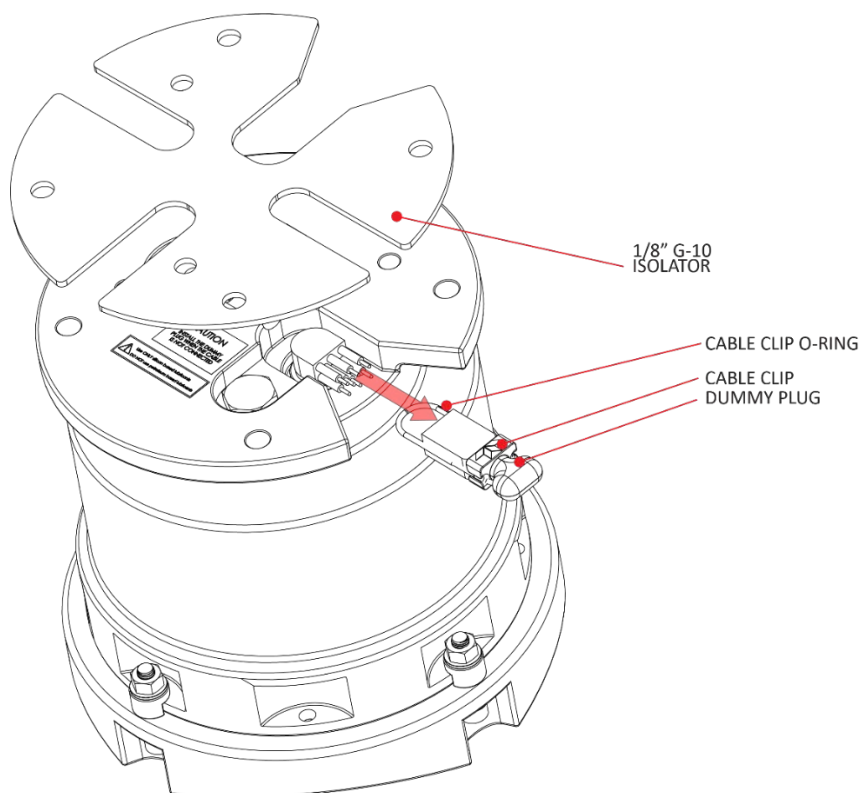

Figure 1. Removing the I/O Cable
2. Grasp the cable close to the housing (see Figure 1. Your thumb should rest on top of the connector or against the edge of the housing. *Do not try to fit your hand under the cable as it passes over the housing.* This is what causes the upward force!